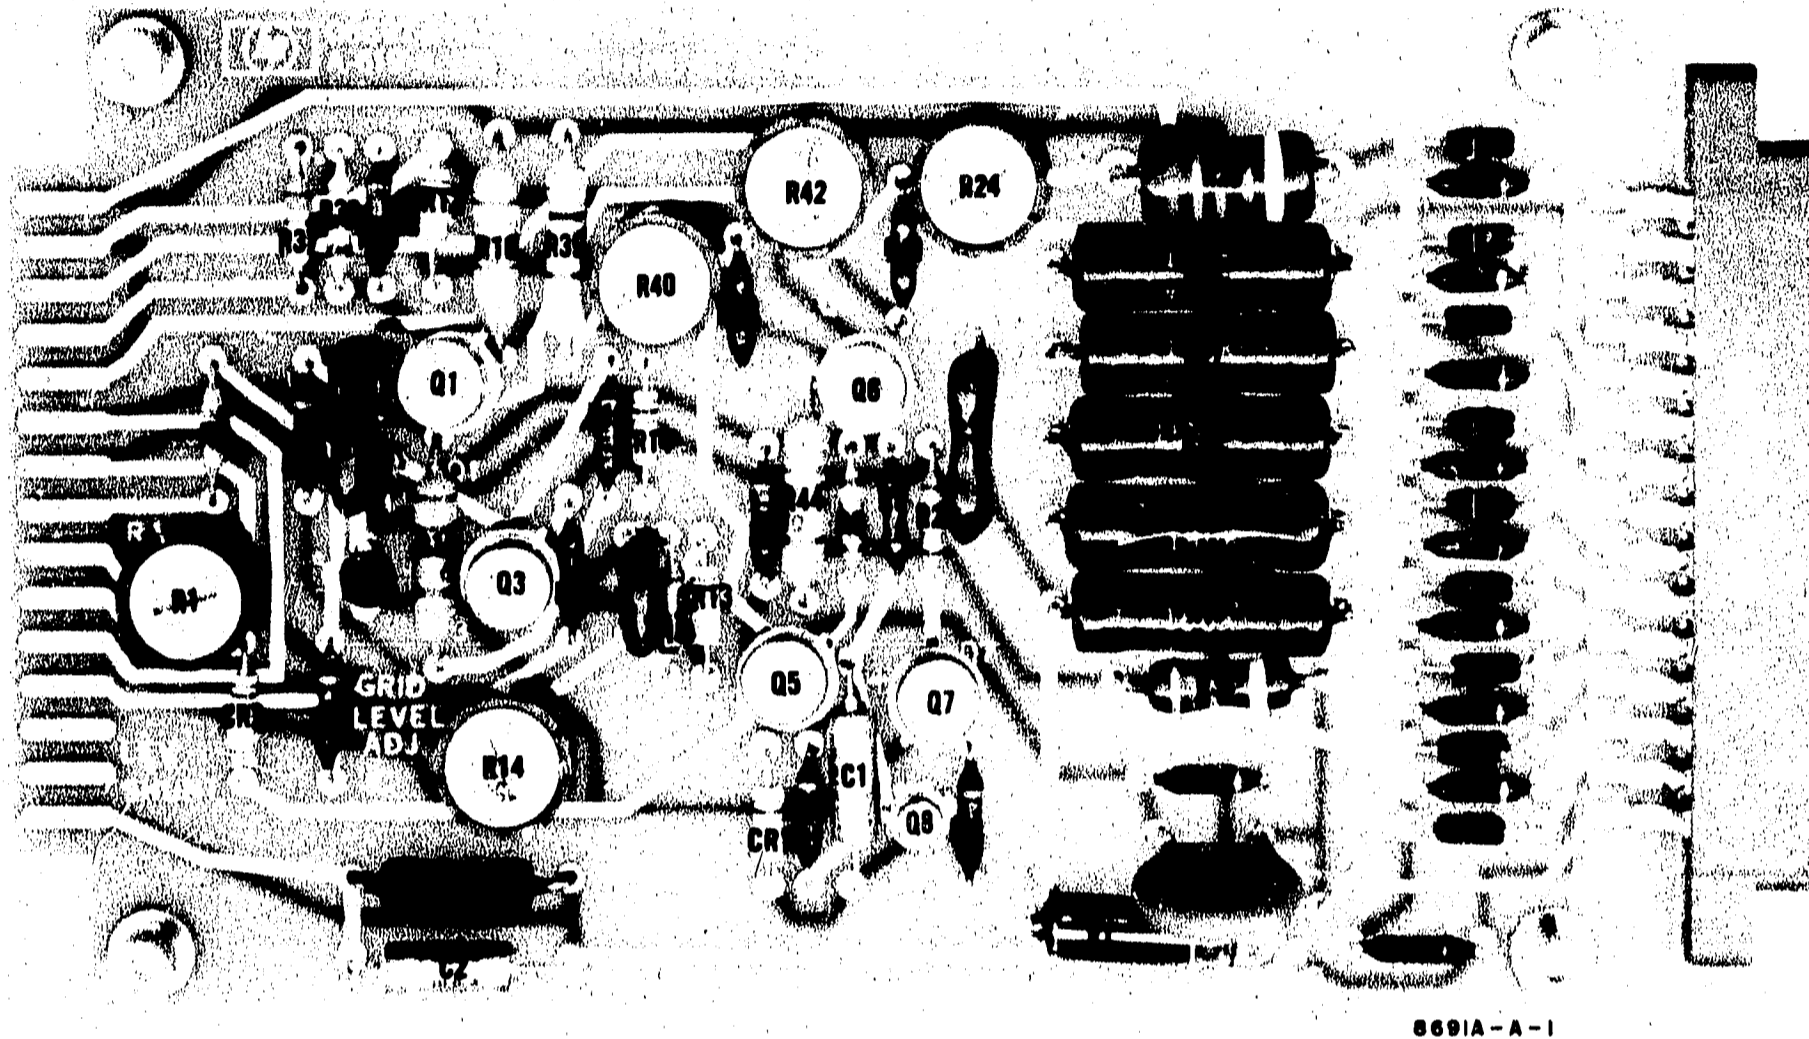

Figure 2-6. Component Identification Assembly A1
- (1) Resistor, A1R45, 196k connected from collector of A1Q3 to -300V;
- (2) Transistor NPN, A1Q4 as follows:
- (3) Designate stage A1Q4: "EMITTER FOLLOWER."
**CHANGE C:** Substitute the following photograph for Figure 2-6 in Manual.